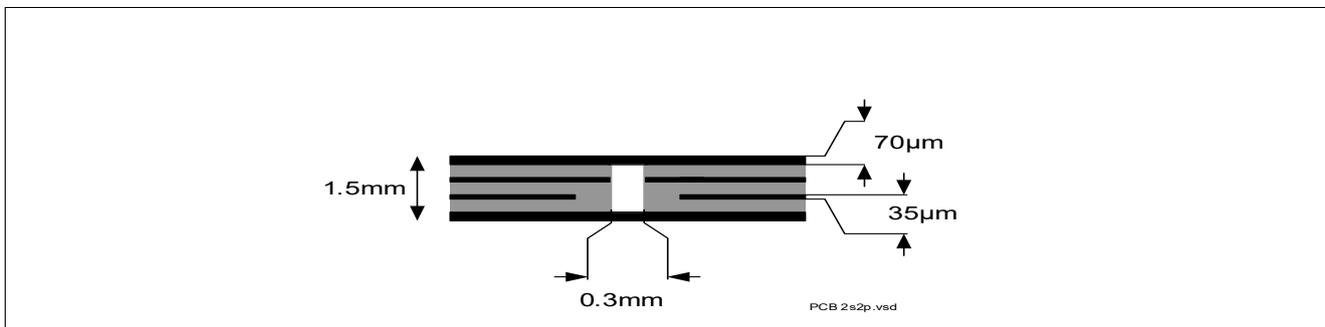

Figure 4 2s2p PCB Cross Section
2) Specified R_{thJA} value is according to JEDEC JESD51-2,-5,-7 at natural convection on FR4 2s2p board with 1 W power dissipation equally dissipated for both channel at $T_A=105^\circ\text{C}$; The product (chip + package) was simulated on a 76.4 x 114.3 x 1.5 mm board with 2 inner copper layers (2 x 70 μm Cu, 2 x 35 μm Cu). Where applicable, a thermal via array under the exposed pad contacts the first inner copper layer. Please refer to **Figure 4**.